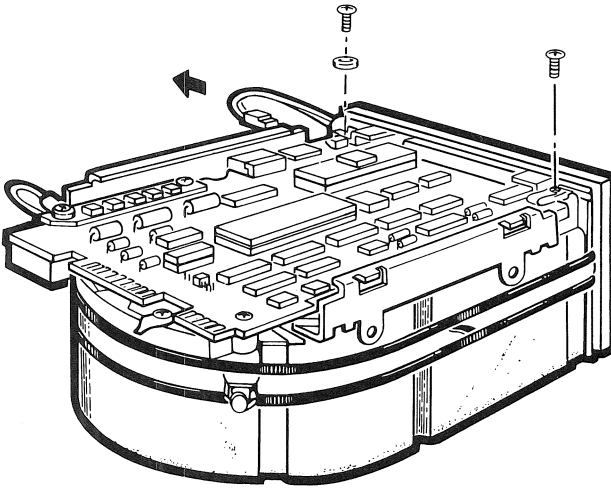

Figure 4-7 Remove the 2-Pin Connector and Screws
2. Unplug the 2-pin connector (near the front bezel) from the MPCB with your fingers (see Figure 4-7).
3. Remove the two Phillips screws that attach the front bezel to the drive, as shown in Figure 4-7.